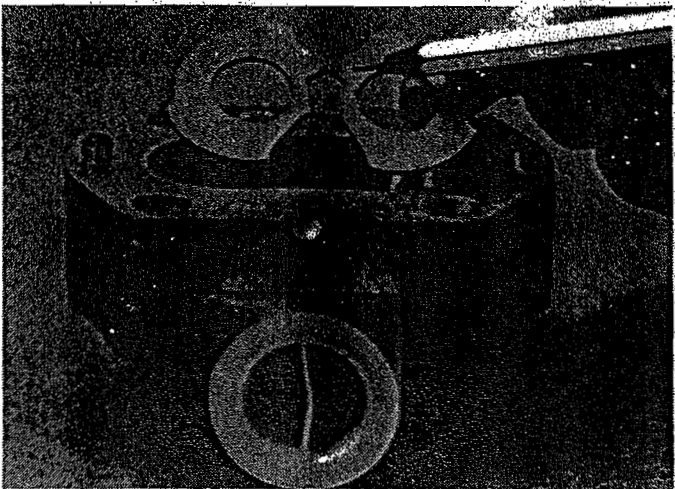

Fig. 13
16. Rear thrust plate (Item 6) has a semi-V shaped window cut in the plate. With the point of the V toward discharge port and bronze side of plate up, place it down inside of gear plate. (Fig. 13)